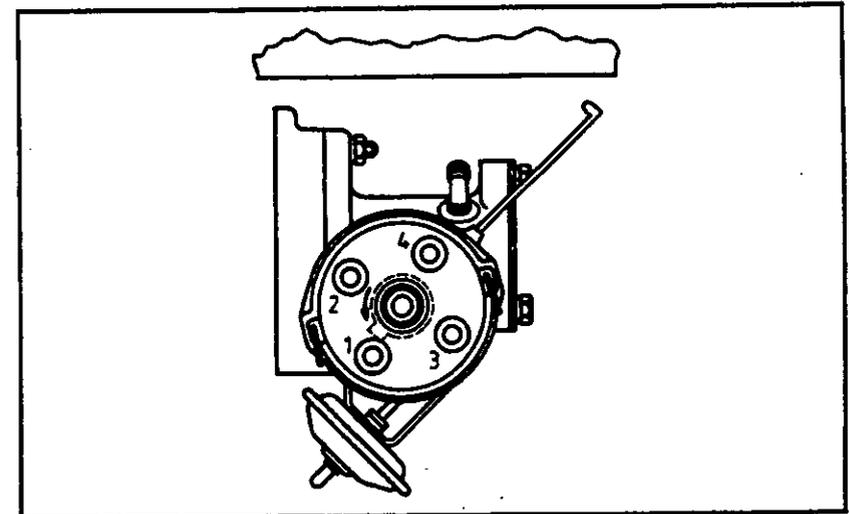

Fig. 15 Distributor rotor arm position
- 2 Ensure the distributor rotor arm is aligned with number 1 spark plug lead (see fig. 15).